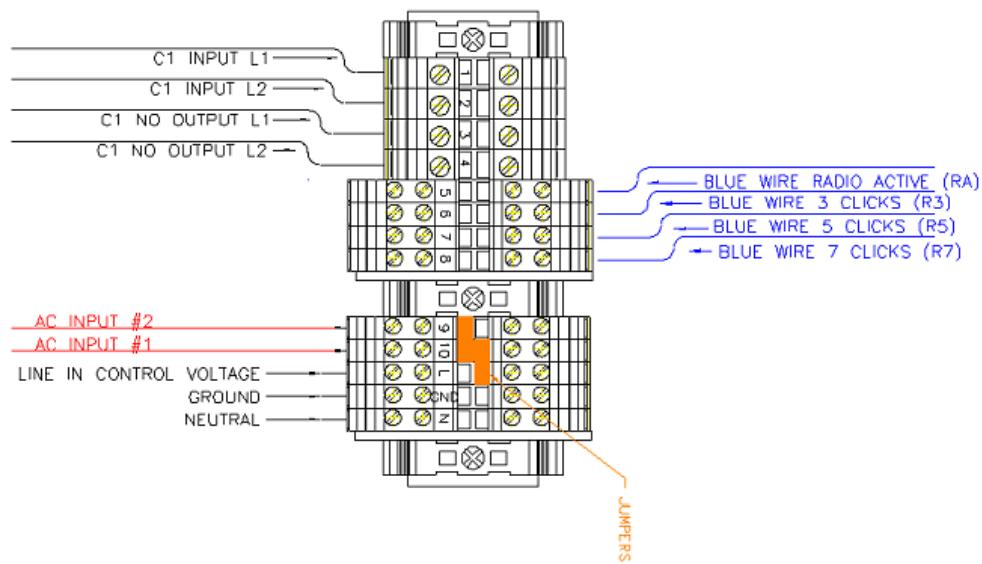

Figure 3 Power Connections
All field power and control connections are made with screw style terminal blocks, see Figure 3. Additional terminal block entry points are provided for jumpers and field connections.
Choose a suitable power source depending on whether the contactor is 120VAC or 240VAC. And has a primary interrupt breaker or fuse. Make the following connections: (see figure 3)
This radio uses a single blue wire to select whether the contactor energizes on 3, 5, or 7 clicks. You may insert the blue wire jumper into either terminal 5, 6, 7, or 8. See figure 3... **For Heliports the blue wire installed in Terminal 5 (RA) will toggle the contactor ON with 3 clicks in both Parallel and Serial.**
1. Major radio receiver subcomponents include the RE101 receiver, RE L12DWD controller; RE-TLD switched power supply, relay, 40 Amp Contactor, terminal blocks and cabinet heater. Power inputs are made at the terminal block (see Figure 3) using any voltage source from 120 to 240Vac (50 or 60 Hz). A single on/offswitch controls power to all receiver components and is supplementary protected by a 5A inline fuse.